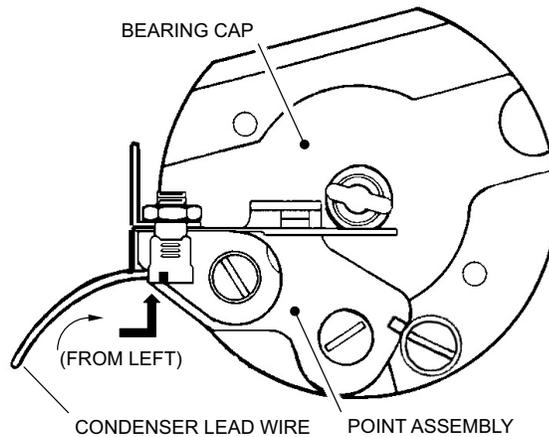

Figure 7.17
- B. Attach the terminal with the lead pointing left. (See Figure 7.17.)